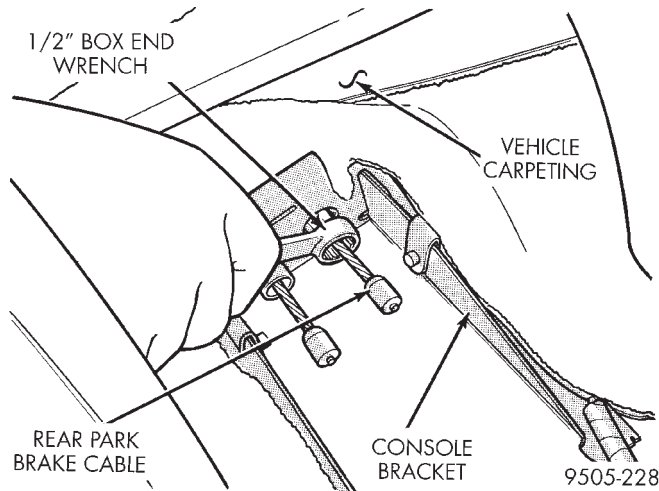

Fig. 145 Compressing Park Brake Cable Retaining Tabs
(14) Install the box end of a 1/2 in. wrench over the park brake cable retainer as indicated in (Fig. 145). This will compress tabs on park brake cable retainer, allowing cable to be removed from console bracket. From under carpet, grasp park brake cable housing and pull cable straight out of console bracket.